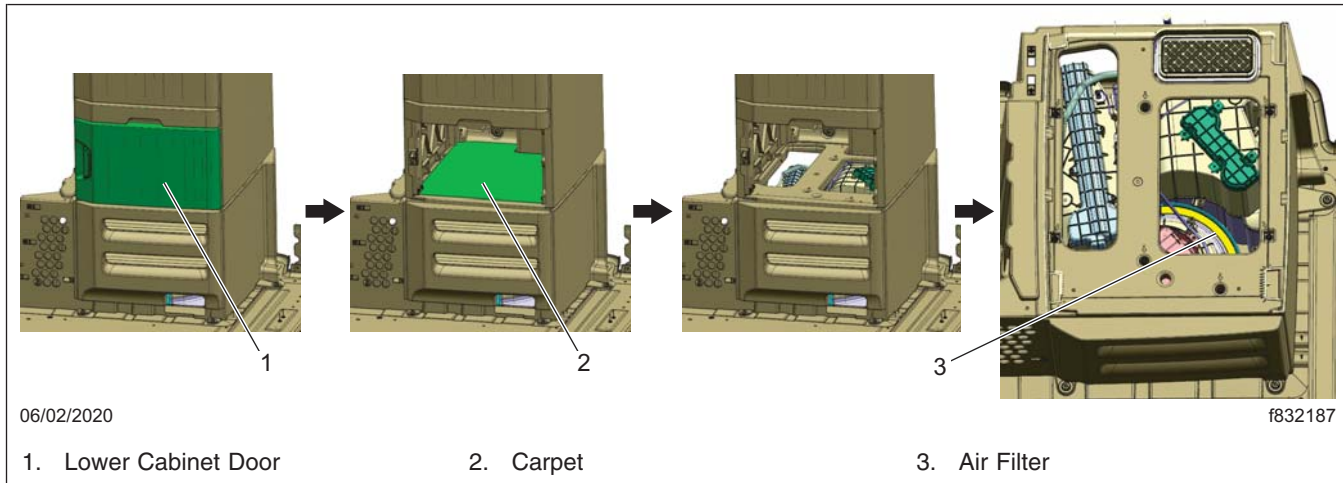
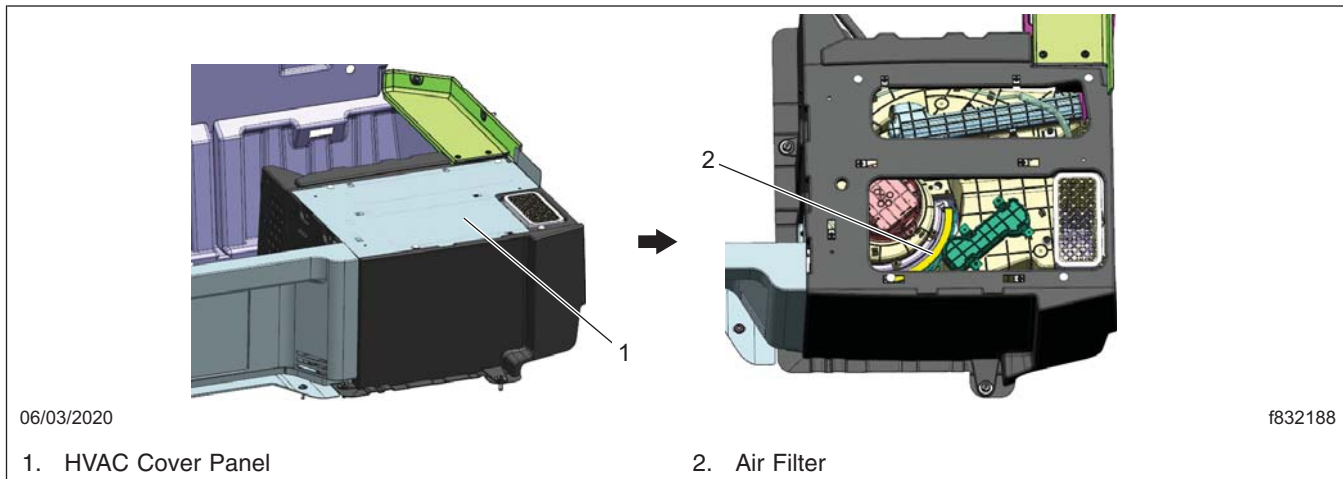
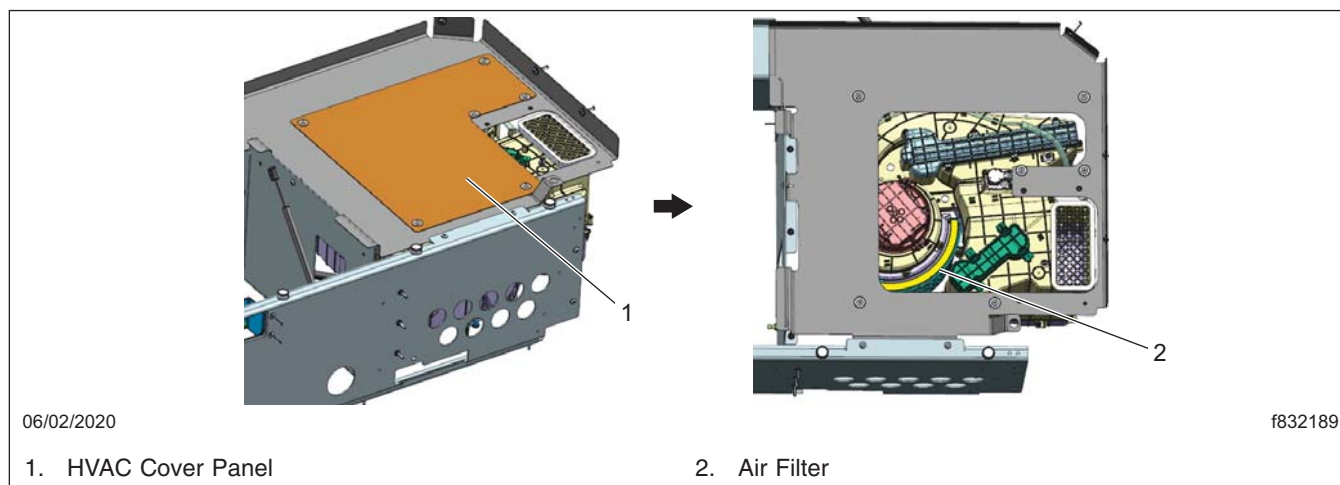

Fig. 5, Sleeper HVAC Access Panel, 72-inch Sleepers (Similar for 60-inch Sleeper)
Fig. 6, Sleeper HVAC Access Panel, 48-inch Sleeper
Fig. 7, Sleeper HVAC Access Panel, 36-inch Sleeper
2. In vehicles with 60-inch and 72-inch sleepers, open the L/H lower cabinet door and remove carpet inside the cabinet. See Fig. 5.
In vehicles with 36-inch and 48-inch sleepers, raise the lower bunk, and lift to remove the HVAC cover panel. See Fig. 6 and Fig. 7.
3. Lift the filter out of the slot for 36-inch sleeper. See Fig. 7.
4. Lift the filter out of the slot. See Fig. 5 for 60- and 72-inch sleepers, or Fig. 6 for 48-inch sleepers.